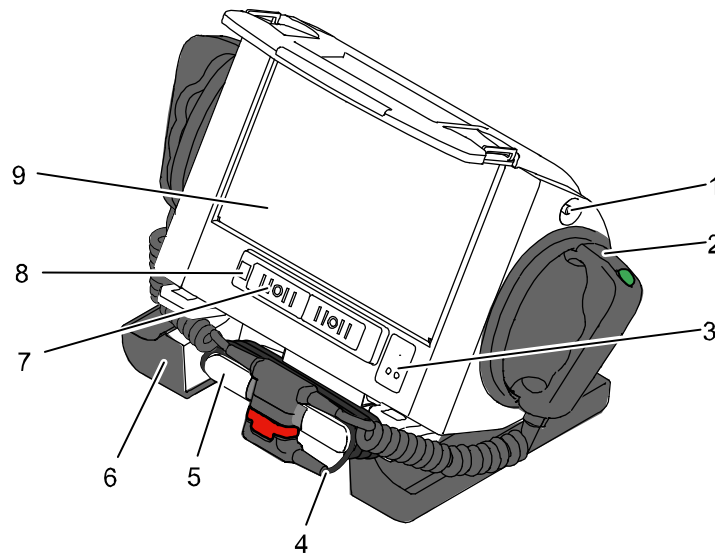

Fig. 3-11 Defibrillator/Pacer
The therapy electrodes have to be connected to the therapy master cable (Fig. 3-11, item 4). The therapy master cable can be wound around the socket (Fig. 3-11, item 5). The plug can be lodged in the socket for storage.
Via the equipotential pin (Fig. 3-11, item 1) equipotential bonding can be performed in clinical use. For this, the insulating cap has to be removed and the cable of the equipotential bonding device has to be connected to the equipotential bonding pin.
The stand (Fig. 3-11, item 6) additionally serves as a storage compartment for electrode gel and razors, etc.